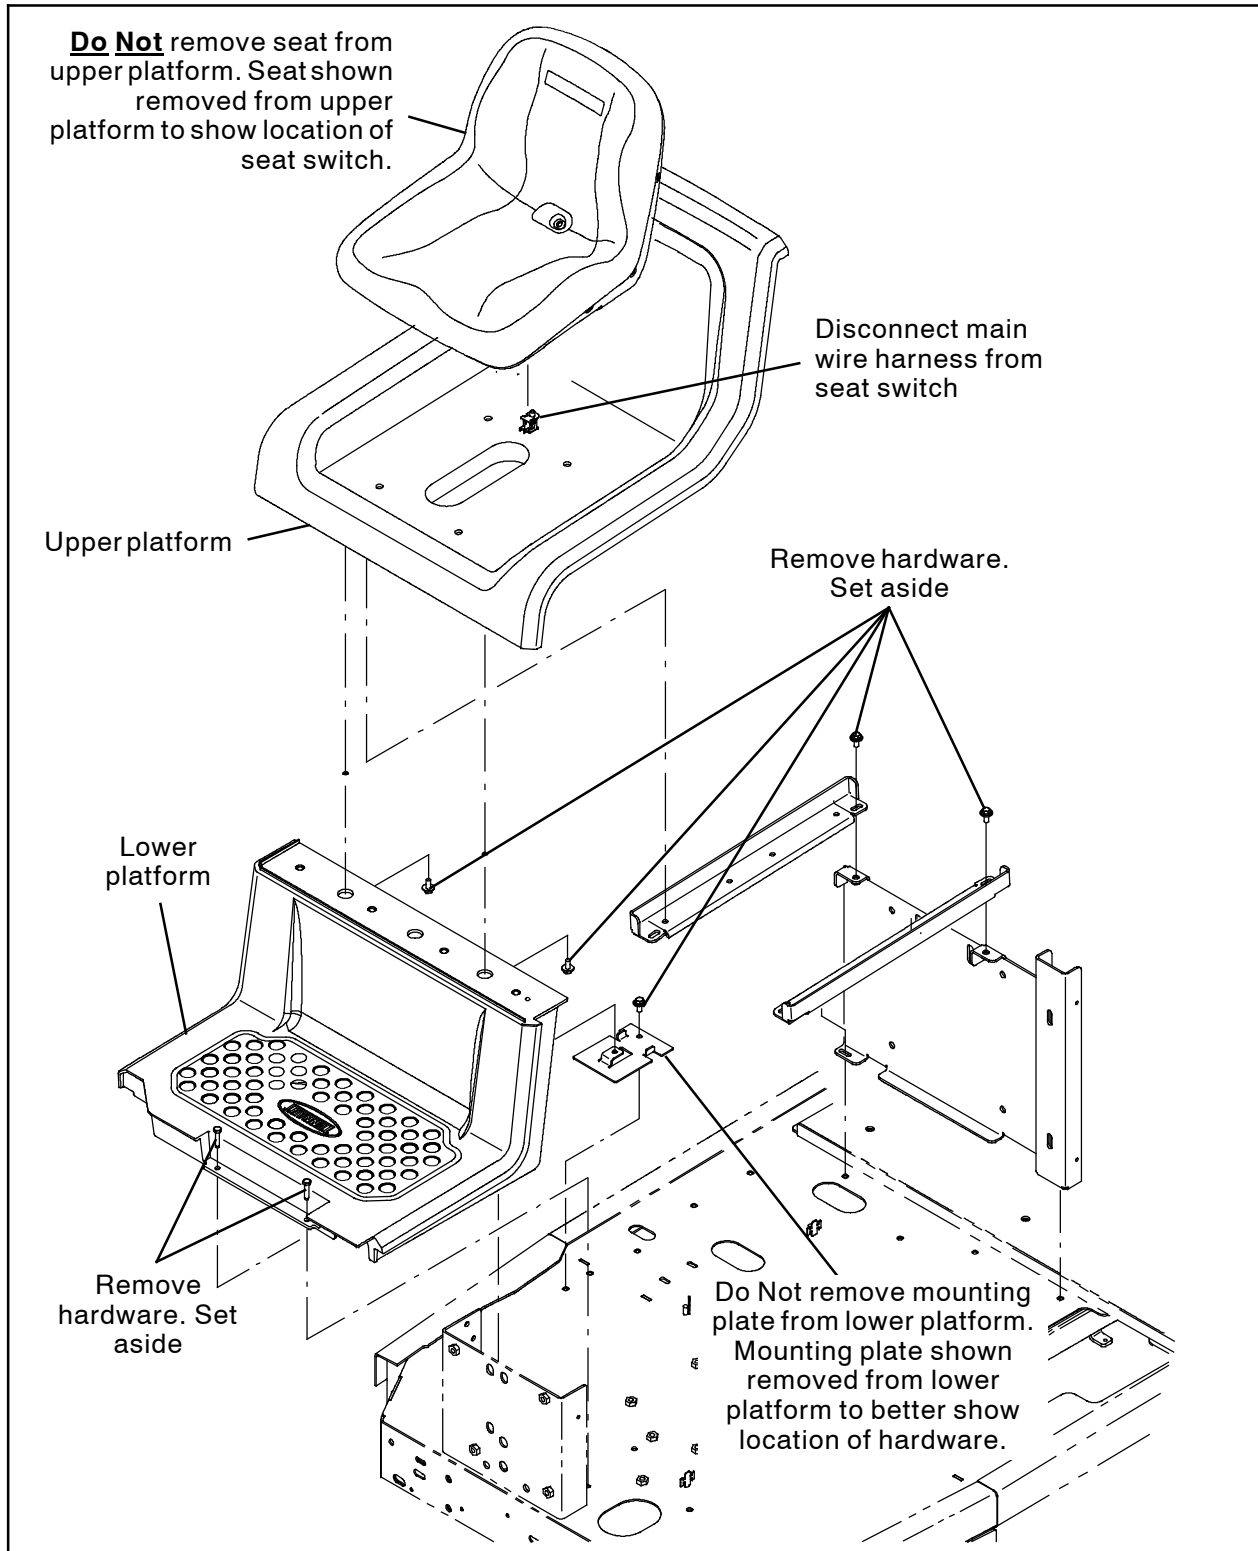

FIG. 3
4. Disconnect the main wire harness from the seat switch located on the bottom of the seat. (Fig. 3)
5. Remove the seat platform assembly from the machine. Set the upper platform, lower platform, and all mounting hardware aside. (Fig. 3)